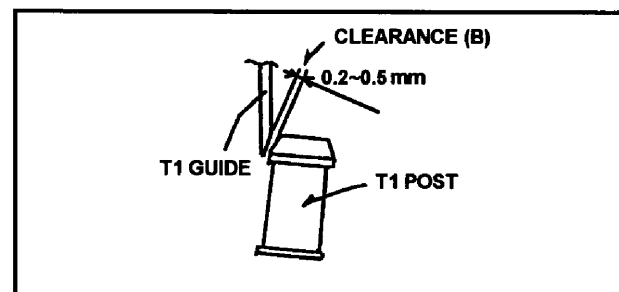

Fig.M19
1. Observe the clearance (B) between T1 Guide and T1 post as shown in Figure M19. And make sure that it is in between 0.2 and 0.5mm.
2. If not, Loosen the 2 screws(A) and adjust the position of T1 Guide by moving to arrow direction (G↔G) so that the clearance (B) is within the specification. And tighten the 2 screws(A).